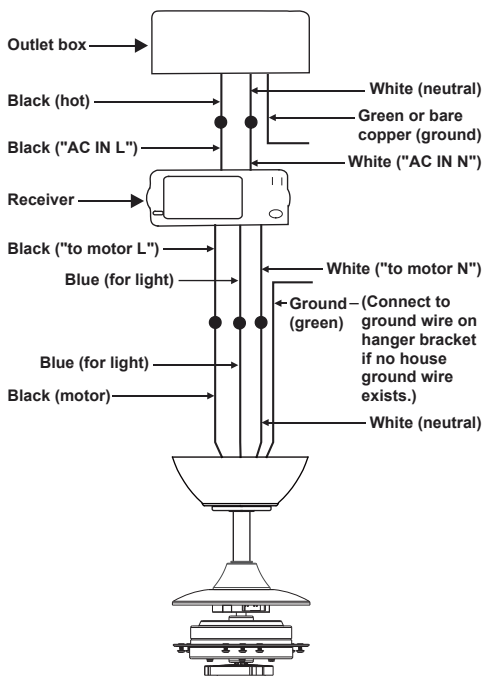

Figure 10
Step 2. (Fig. 10) Motor to Receiver Electrical Connections: Connect the Black wire from the fan to Black wire marked "TO MOTOR L". Connect the White wire from the fan to the White wire marked "TO MOTOR N" from the receiver. Connect the Blue wire from the fan to the Blue wire marked "For bottom Light" from the receiver. Secure wire connections with the plastic wire nuts provided.
Step 3. (Fig. 10) Receiver to House Supply Electrical Connections: Connect the black (hot) wire from the ceiling to the black wire marked "AC in L" from the receiver. Connect the white (neutral) wire from the ceiling to the white wire marked "AC in N" from the Receiver. Secure the wire connections with the plastic wire nuts provided.
Step 4. (Figure 10) If your outlet box has a ground wire (green or bare copper) connect it to the fan ground wires; otherwise connect the hanging bracket ground wire to the mounting bracket. Secure the wire connection with a plastic nut provided. After connecting the wires, spread them apart so that the green and white wires are on one side of the outlet box and black and blue wires are on the other side. Carefully tuck the wire connections up into the outlet box.